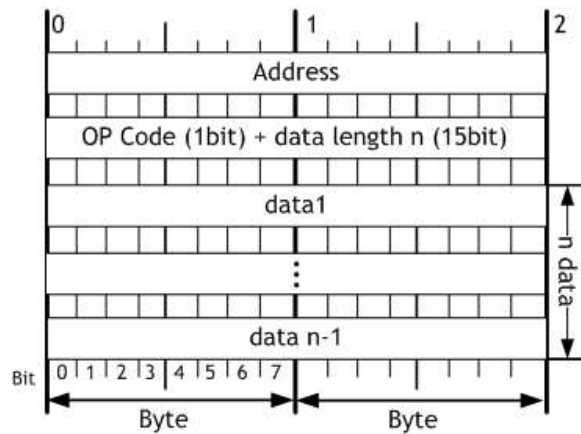
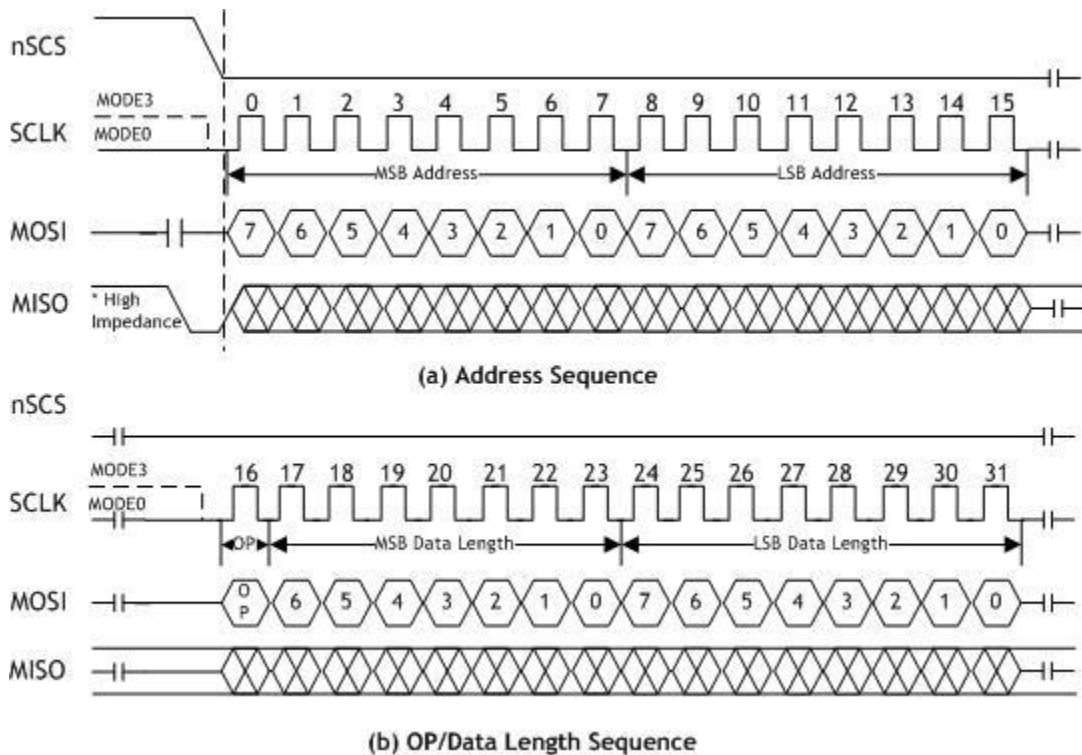

Figure 19 W5200 SPI Frame Format
Figure 20 Address and OP/DATA Length Sequence Diagram
The READ Processing Sequence Diagram is shown in Figure 20. The READ processing is entered by driving CSn low, followed by the Address, the OP code, the Data Length and the Dummy data byte on MOSI. And then W5200 read the data byte on MISO. The Address, the OP/Data Length Sequence Diagram and the Data are shown in Figure 19. The OP code (OP) is defined type of the READ OP and WRITE OP. On OP = 0, the read operation is selected. Otherwise, On OP = 1, the write operation is selected.